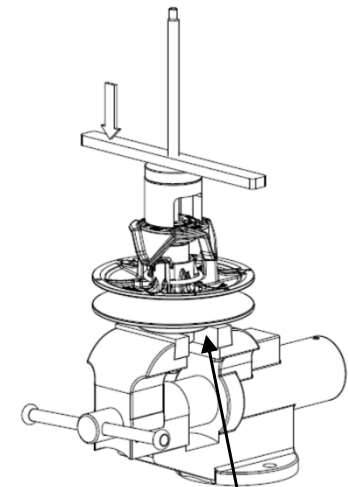

Figure 19
- Install the pulley on the disassembly tool as shown in figure 19. Use the lock screw to prevent the rotation of the pulley on the disassembly tool.
- By screwing the bar on the threaded rod, press down cam ⑨ (3 to 4 mm max.) in order to release the retaining ring ⑩ (figure 19).